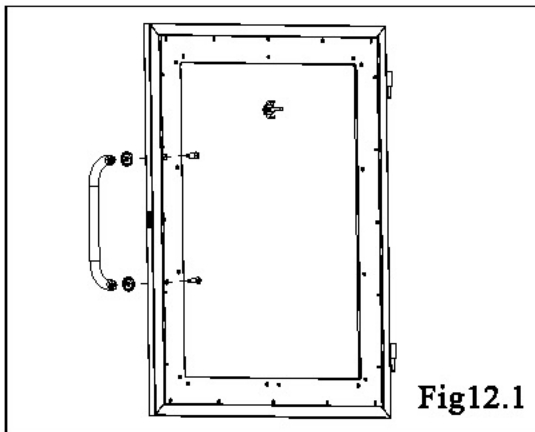

Fig12.1
Procedure: Attach the Door Handle and Handle Bezel to the door with (2)10-24x3/8" shoulder bolts. Fig 12.1